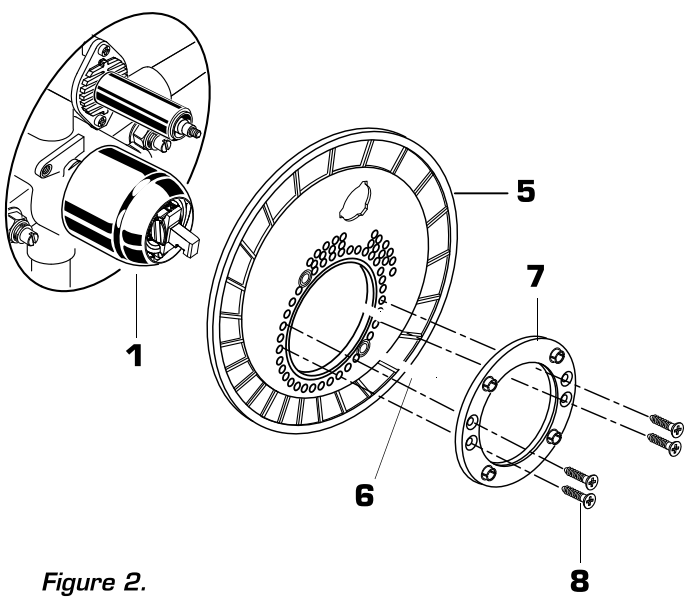

Figure 2.
- **Figure 2.** Push ESCUTCHEON HOLDER (5) onto CAP(1) and attach with SCREWS (6). Mount ESCUTCHEON SUPPORT (7) to ESCUTCHEON HOLDER (5) with SCREWS (8).